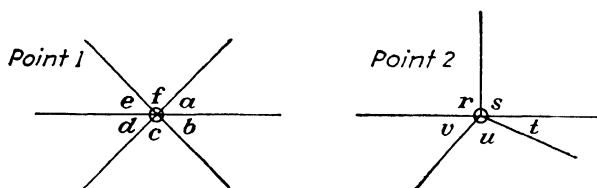

Fig. 110.
3. Measure each angle in Fig. 110. Find the sum of the angles around each point.